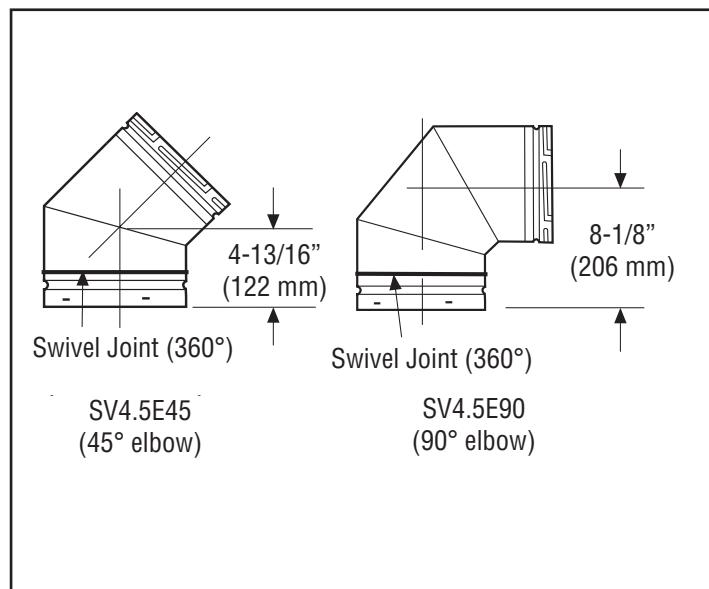

Figure 13 - Elbow Dimensions
3. **Change vent direction**—At transition from or to a horizontal/inclined run, install SV4.5E45 or SV4.5E90 elbows in the same manner as the straight vent sections. The elbows feature a twist section to allow them to be routed about the center axis of their initial collar section to align with the required direction of the next vent run element. Twist elbow sections in a clockwise direction only so as to avoid the possibility of unlocking any of the previously connected vent sections (*Figure 13, Page 17*).
Vent elbows are available in 90° and 45° configurations. Refer to **Figure 13** for the SV4.5E45 and SV4.5E90 elbow dimensions. The elbows feature a twist section to allow them to be routed about the center axis of their initial collar section to align with the required direction of the next vent run element.
1. Rotate the elbow in a clockwise direction (to avoid the possibility of unlocking any of the previously connected vent sections) for proper alignment (**Figure 13**). See Connecting the vent pipe for more information.
1. **Analyze the vent route and determine the number of vent sections and elbows required**—See Effective Vent Length on **Table 2, Page 14** for more information. Plan the venting so that a joint does not occur in the ceiling or roof joists. Allow for elbows (**Figure 13, Page 17**). Maintain the minimum clearances for combustibles (**Page 9**).